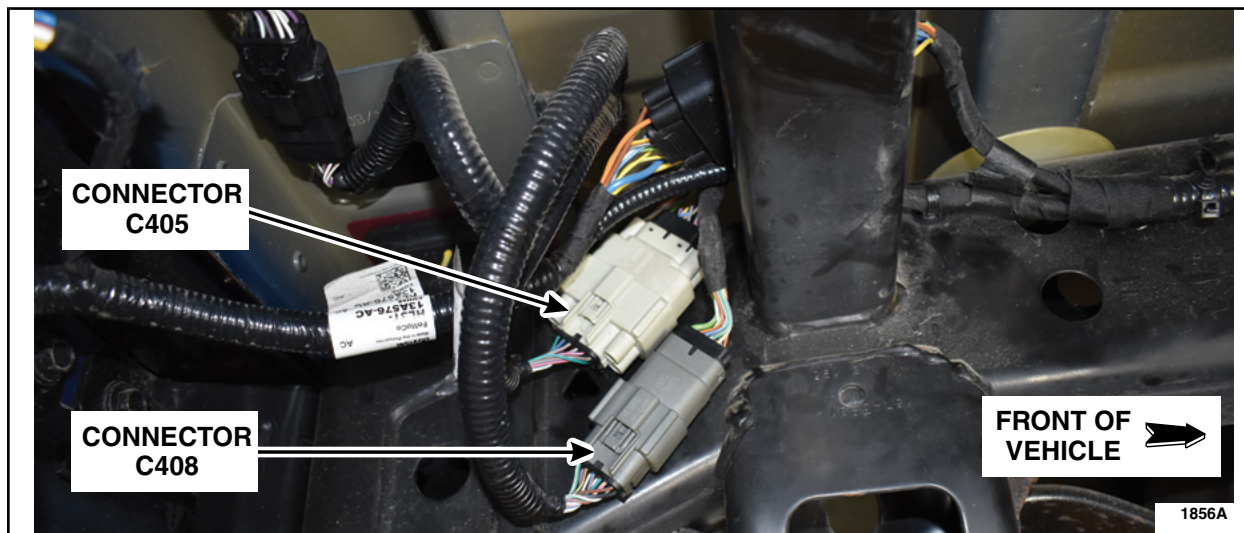

FIGURE 2
4. Disconnect inline connector C408 and C405 located on the left hand (LH) side of the frame at the rear of the vehicle. See Figure 2.